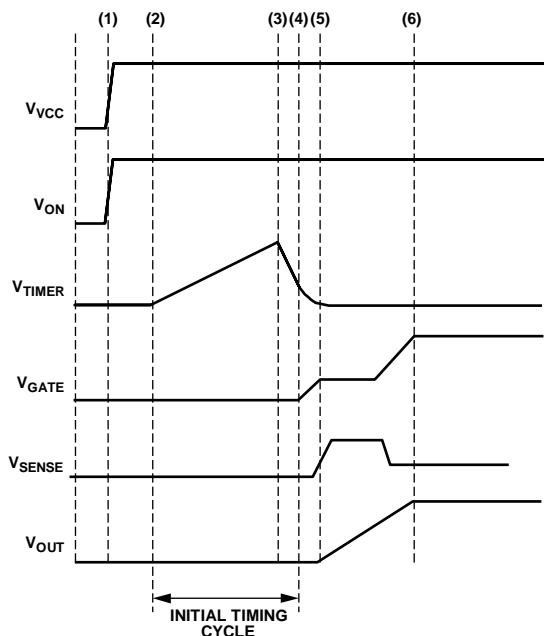

Figure 32. Startup (ON Asserts as Power Is Applied)
When VCC is first connected to the backplane supply, the internal supply (Time Point (1) in Figure 32) of the ADM1177 must be charged up. A very short time later (significantly less than 1 ms), the internal supply is fully up and, because the undervoltage lockout voltage is exceeded at VCC, the device comes out of reset. During this first short reset period, the GATE pin is held down with a 25 mA pull-down current, and the TIMER pin is pulled down with a 100 µA current sink.
When the initial timing cycle terminates, the device is ready to start a hot swap operation (assuming the ON pin is asserted). In the example shown in Figure 32, the ON pin is asserted at the same time that V_{CC} is applied; therefore, the hot swap operation starts immediately after Time Point (4).